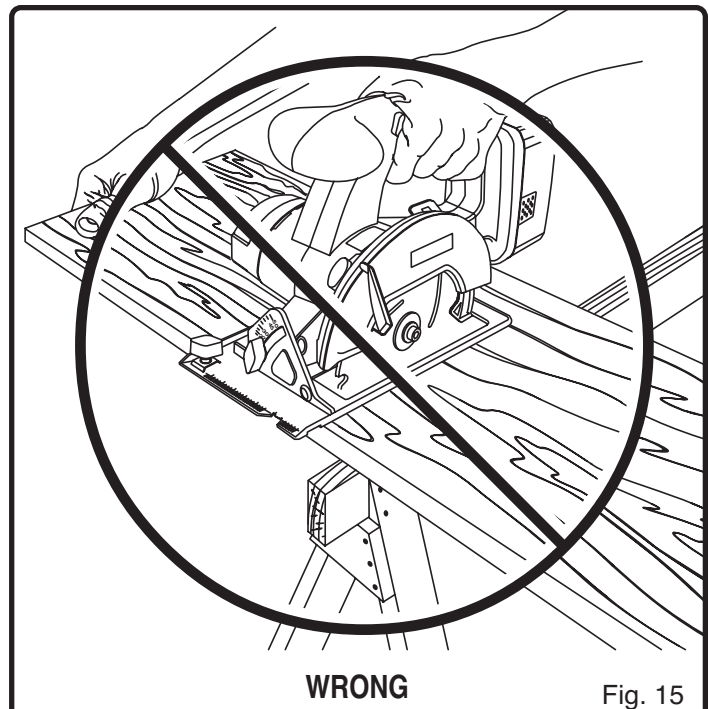

Fig. 15
**Never place your saw on that part of the workpiece that will fall off when the cut is made.** See Figure 15.